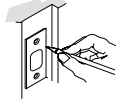

Figure 4c
- Outline outside edges of Strike Plate (Figure 4c).